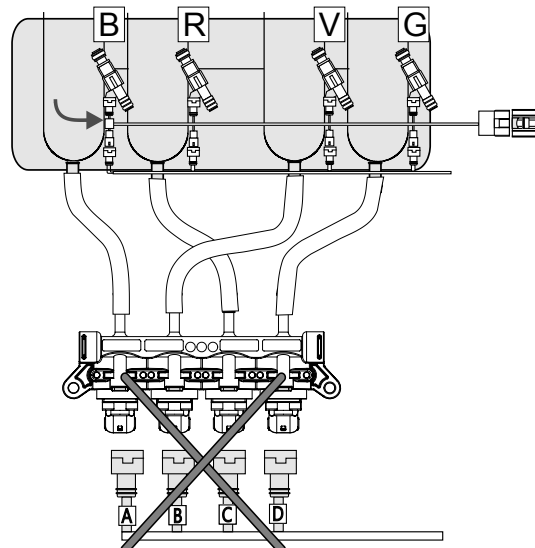

fig.i5
- Identify the best position for installing the injectors while complying with the indications about positioning shown in fig. i5. Gas injector “A” must always be positioned above gas inlet joint “B”.